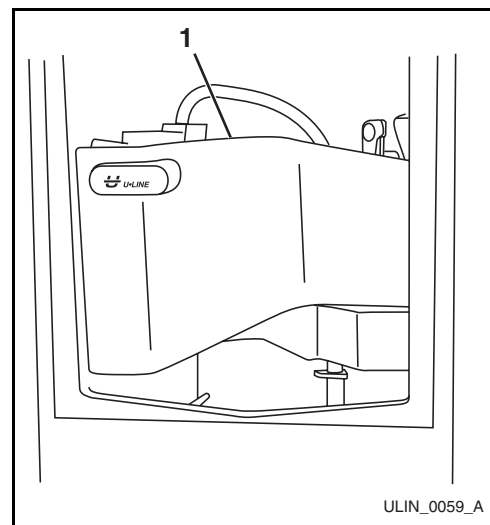

Figure 10
3. Remove inside front cover (**Figure 10, 1**).